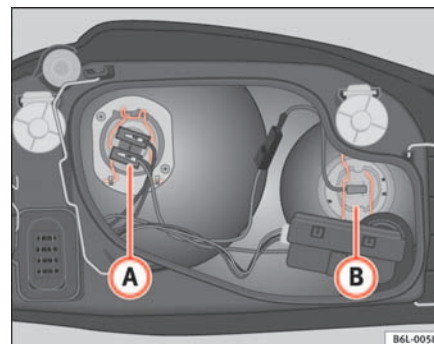

Fig. 143 Dipped headlight lamp
- Remove the lamp cable connector (A) ⇒ fig. 143.